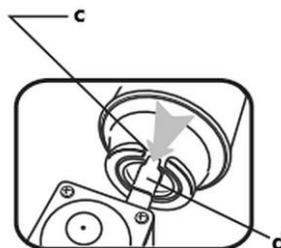

Fig. 7
1. Set the rotary controller (17) to OFF position (16), and the gas cartridge locking lever (20) to UNLOCK (14) position.
2. Open the gas cartridge shaft cover (6).
3. Insert the gas cartridge (7) into the gas cartridge shaft (8), with the gas cartridge neck recess (c) facing upwards so that the valve nib (d) of the gas cooker fits smoothly into the recess (c). (Fig. 7)